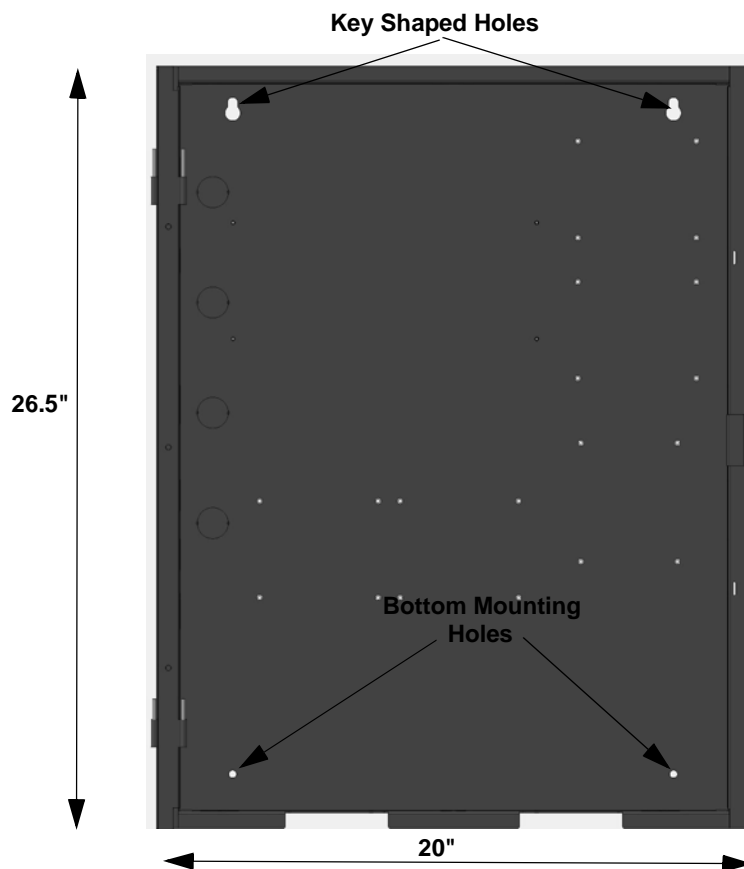

Figure 3-3: 6820EVS or EVS-LOC Cabinet Mounting Holes
3. Mark and predrill holes in the wall for the center top keyhole mounting bolts using the dimensions in Figure 3-3.